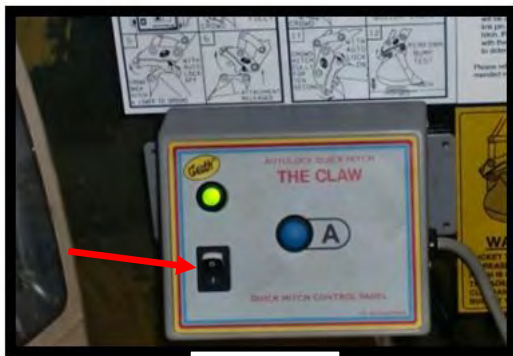
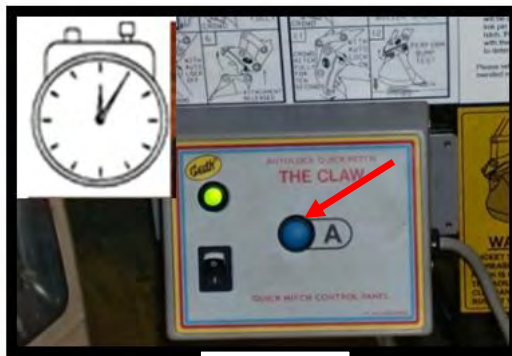

Fig. 5
Fig. 6
1. On the Quick Coupler operation control panel press the system 'ON' (**O** denotes OFF and **I** denotes ON) button and then press button 'A'. Note: Button 'A' must be pressed within five seconds of pressing the 'ON' button or the system will not operate. If this occurs press the 'ON' / 'OFF' button to the OFF position to reset, then start the sequence again. See fig. 5 and fig. 6.